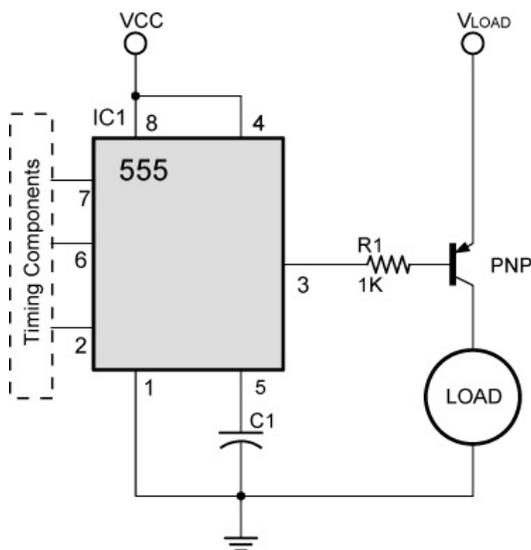

**Figure 3 – 555 as a Sink**
- 555 Output as a Sink: In Figure 3, when pin 3 output is LOW it provides a current path to ground through the 555 (the 555 sinks the current) and the LED is switched on.